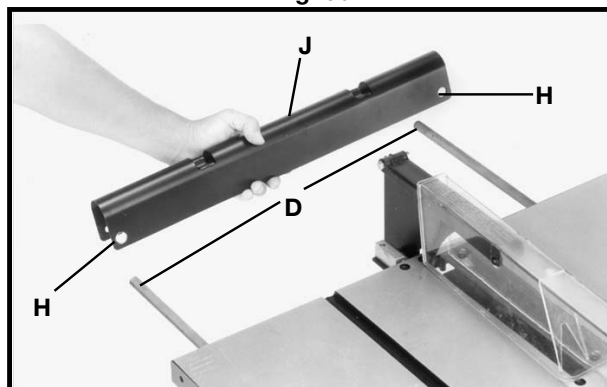

Fig. 31
3. Insert rods (D) Fig. 31, into larger holes (H) in outfeed support (J) as shown.